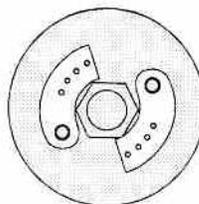
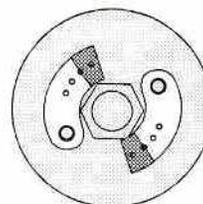
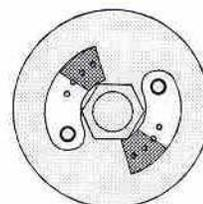

Fig. 301A
Fig. 301B
Fig. 301C
ENGINE CLUTCH (Fig. 301A, 301B, 301C) Our Team drivers have worked out a simple modification to improve the performance of the clutch. It involves trimming down the clutch shoes to the size needed for your application, as in the shaded area in fig. 301B.
(1) Using an X-acto® knife, trim away the shaded portion of the clutch shoes as in fig. 301B. (2) After this, you will need to test the clutch performance. After you have warmed up your truck, bring it to an idle in front of you. **NOTE:** You will probably need to raise your idle slightly with this modification. (3) Now apply full throttle from a standing start. Your truck should accelerate quickly without hesitation or excessive rpms. If your engine tends to "bog" (be slow in initial acceleration), then you may need to trim your clutch shoes half way between figs. 301B and 301C, then test your truck again. (4) If your engine still bogs from a standing start, your maximum trim would be as shown in fig. 301C. This will allow the engine to rev-up higher into its power range before the clutch fully engages. **WARNING! DO NOT TRIM AWAY MORE CLUTCH SHOE THAN NECESSARY, OR ENGINE DAMAGE MAY OCCUR!**
If your engine tends to rev-up excessively without much acceleration, you may need to keep your clutch shoes closer to standard length. Normally, the more power you have, the more clutch shoe you will need. In most cases, trimming the clutch shoes as in fig. 301B will work best.